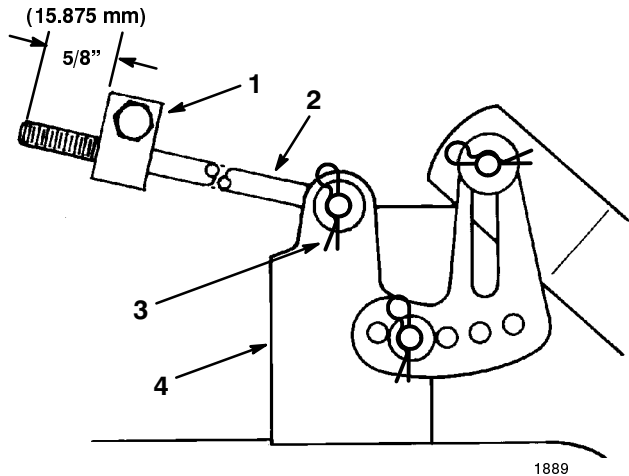

Figure 48
5. Measure the length of the rod extending out the front of the adjusting block on the sides of the chassis (Fig. 48). If the rod length is not 5/8” (15.9 mm), remove the hair pin cotter and washer from the end of the rod (Fig. 48), and turn the rod until the 5/8” (15.9 mm) dimension is obtained. Then install the end of the rod into the hole in the mower mount and secure in place with washer and hair pin cotter. Repeat this procedure on the opposite side of the mower.